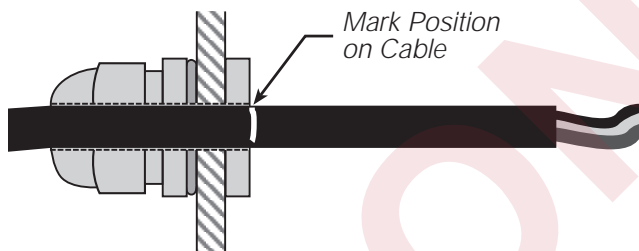

Figure 1. Mark Length of Cable at Inside of Cord Grip
3. Loosen cord grips, then route cables through cord grips. Determine cable length required to reach the connector for each cable. Mark each cable at the inside edge of the cord grip (see Figure 1).